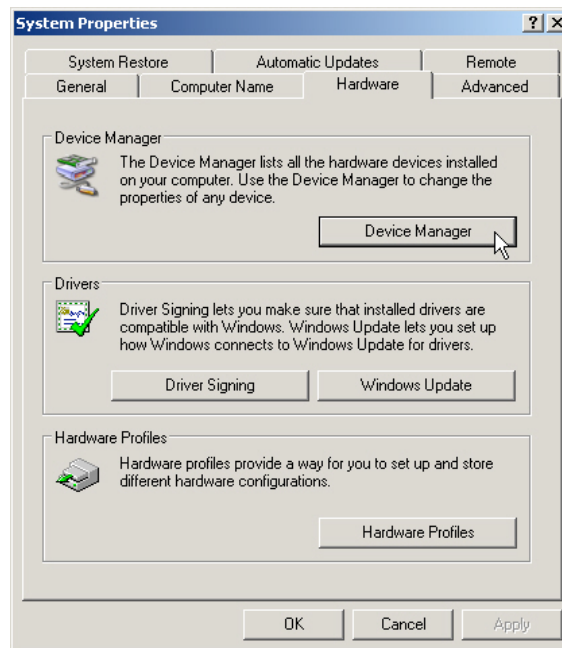
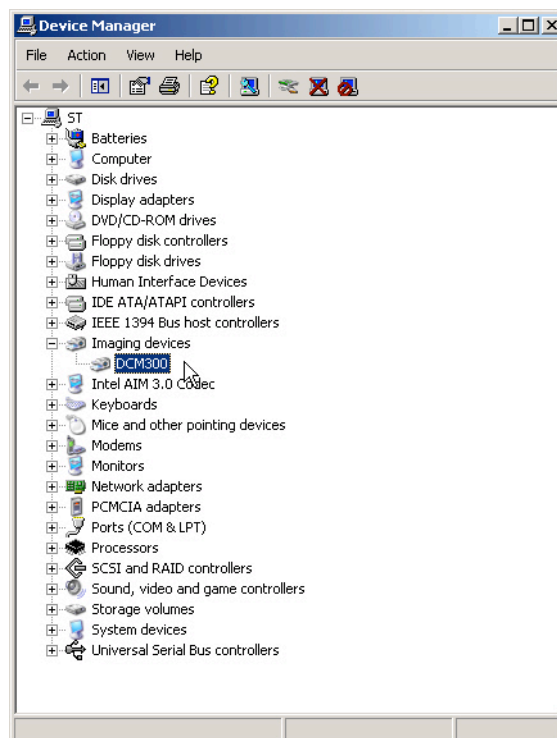

Fig.2.10
Fig.2.11
- i) Click **Hardware** page, the **Hardware** page will be shown in Fig.2.10
- j) Click **Device Manager**-> in Fig.2.10, a new dialog box will be pop up as shown in Fig 2.11. Click **Image Device** fold, there should extend the device you have just installed which is called **DCM300**.